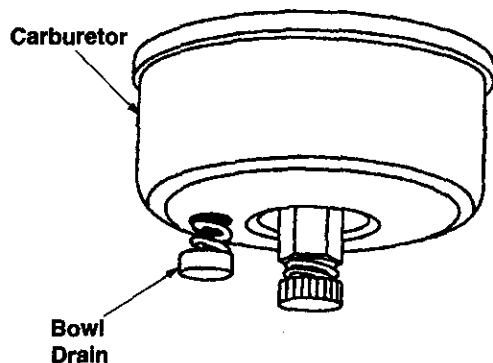

Figure 31
- Drain carburetor by pressing upward on bowl drain, located below the carburetor cover. See Figure 31.
- Remove the spark plug and pour one (1) ounce of engine oil through the spark plug hole into the cylinder. Place a rag over the hole. Crank the engine several times to distribute the oil. Replace spark plug.